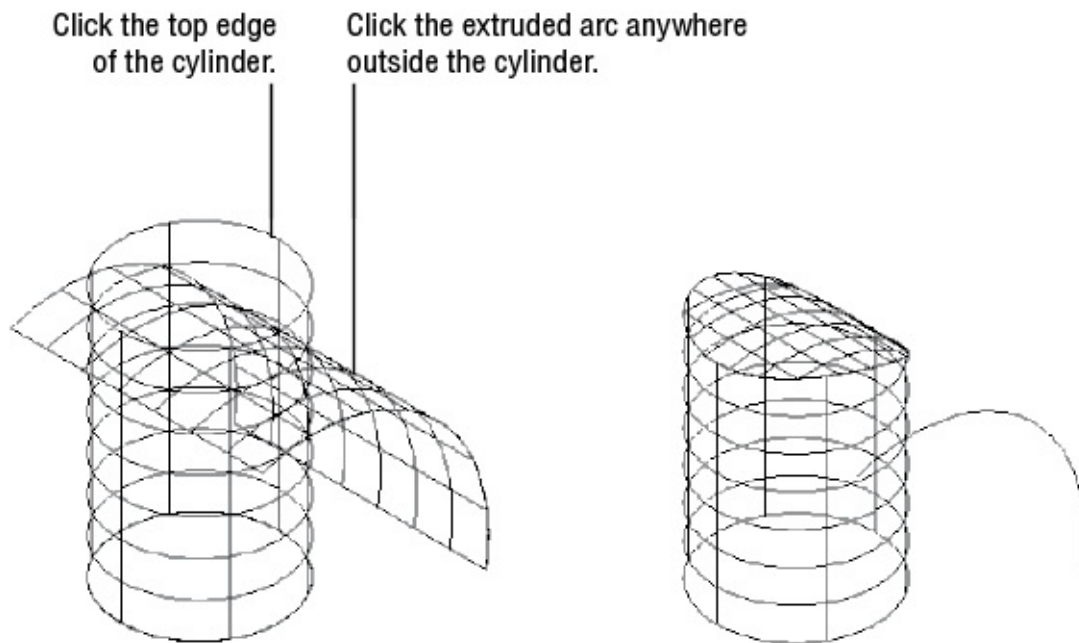

FIGURE 23.44 Trimming the surfaces
4. Finally, click the cylinder near the top edge to indicate what part you want to trim. The cursor will not display a pickbox during this process, and selection windows are disabled. Also click the extruded arc surface anywhere outside the cylinder. Press \leftarrow to end the command. Your surfaces should look like the right-side image in Figure 23.44.